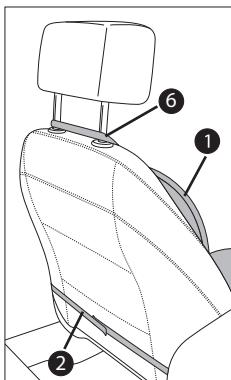

Fig. 2
- It is not always necessary to use every strap ⑥/②. Work out the best way of securing the seat cushion to your seat. Use the following illustrations for assistance.
- If the backrest is extremely high or wide, secure the seat cushion as shown in Fig. 2.
- If your vehicle is equipped with side airbags, please ensure that the securing straps ⑥ are only pulled over the head restraint supports and not over the top part of the car seat when securing the seat cushion ① (see Fig. 2). Otherwise the side airbag may be affected!